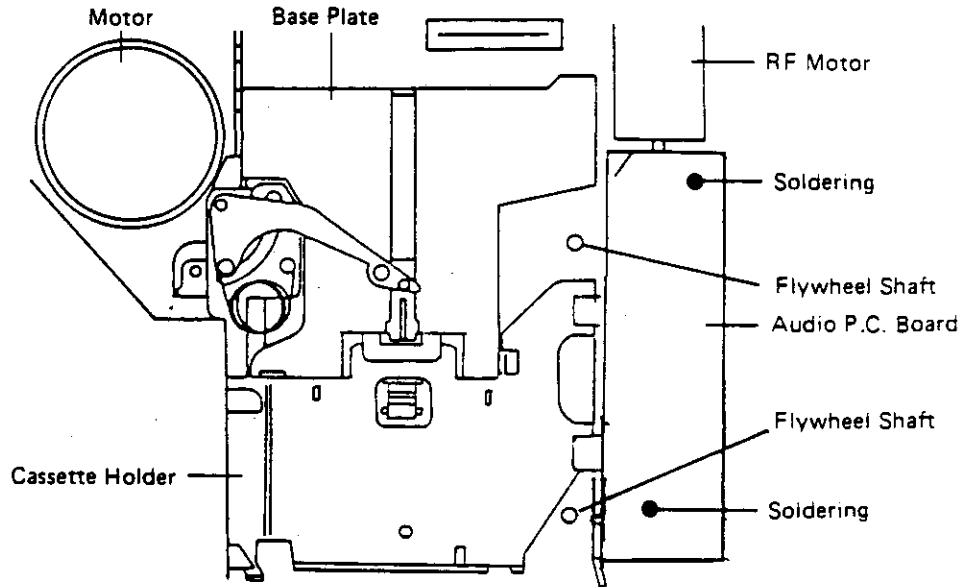

FIGURE 4-18. AUDIO PC BOARD REMOVAL
- a. Desolder two locations and the audio PC board will be removed (see Figure 4-18).